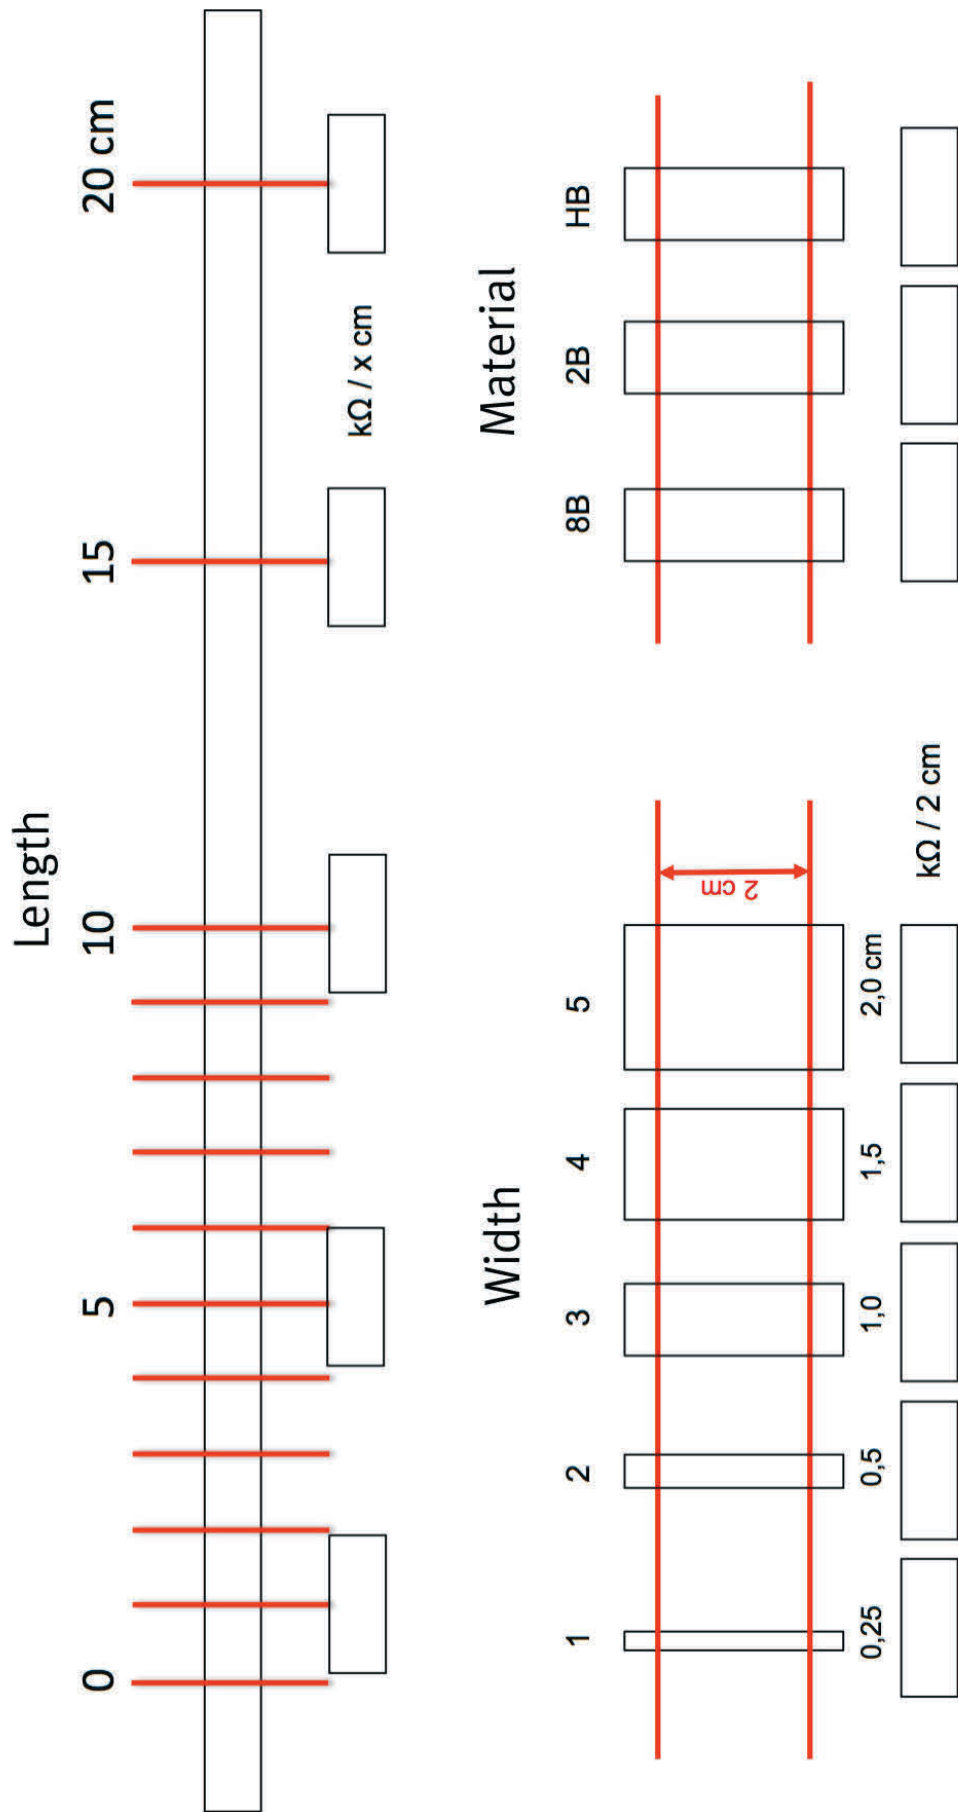

Figure 17: Template for “measurement with multimeter”
- In order to determine the resistance of a pencil line relative to its length, carefully fill out the respective surface of the template (see figure 17) with an 8B pencil.
- In order to determine the resistance of a pencil line relative to its width, carefully fill out the respective surface of the template (see figure 17) with an 8B pencil.
- Fill in the *Material* fields with different pencils (hardness grades 8B, 2B and HB) in the template (see figure 17). What are the resistance values now?